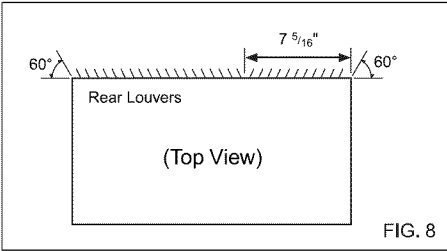

FIG. 8
- 1** Redirect the louvers at the back of the wall sleeve to 60° angle as shown in the FIG 8. The use of pliers is recommended.